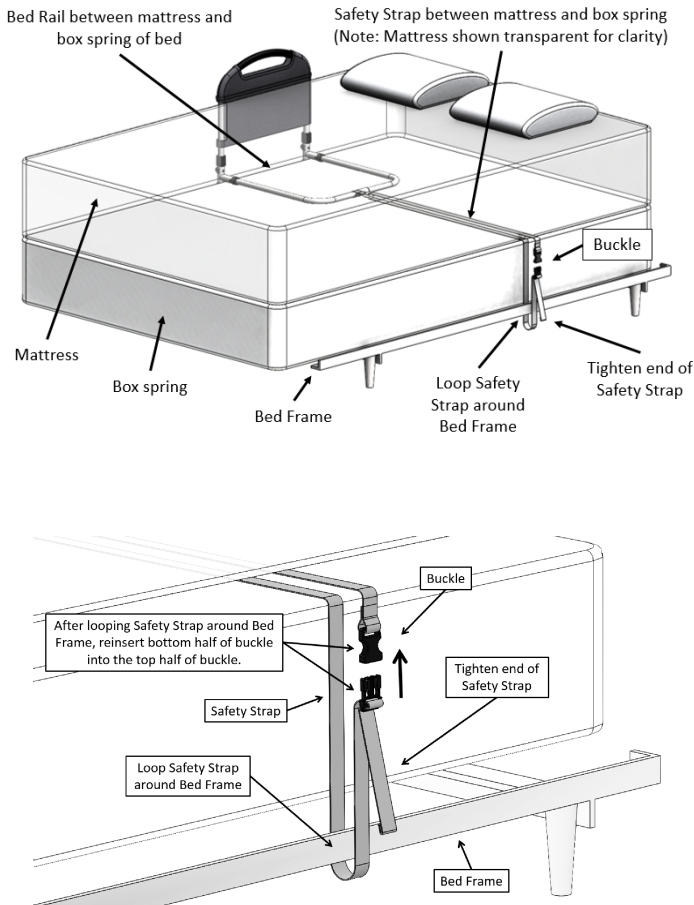

FIGURE 5
6. **Entrapment Warning:** Secure the **SAFETY STRAP** to the bed frame, as shown in Figure 5. Unbuckle strap and loop strap around bed frame and re-buckle. Tighten strap to secure Handle Assembly against the side of the mattress. Do NOT install product with securing the **SAFETY STRAP** to the bed frame as shown in Figure 5. If you have any questions, call Stander at (800) 506-9901 or (435) 755-0453.